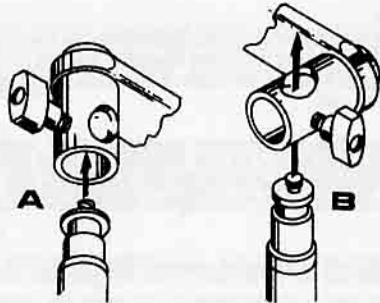

Fig.4
- Mount the Esprit 2 1000 unit on selected support system. The mounting bush on the 'L' bracket allows for two possible ways of mounting to the stand / support (Fig.4). Method B may be found useful if the light is required to point down.